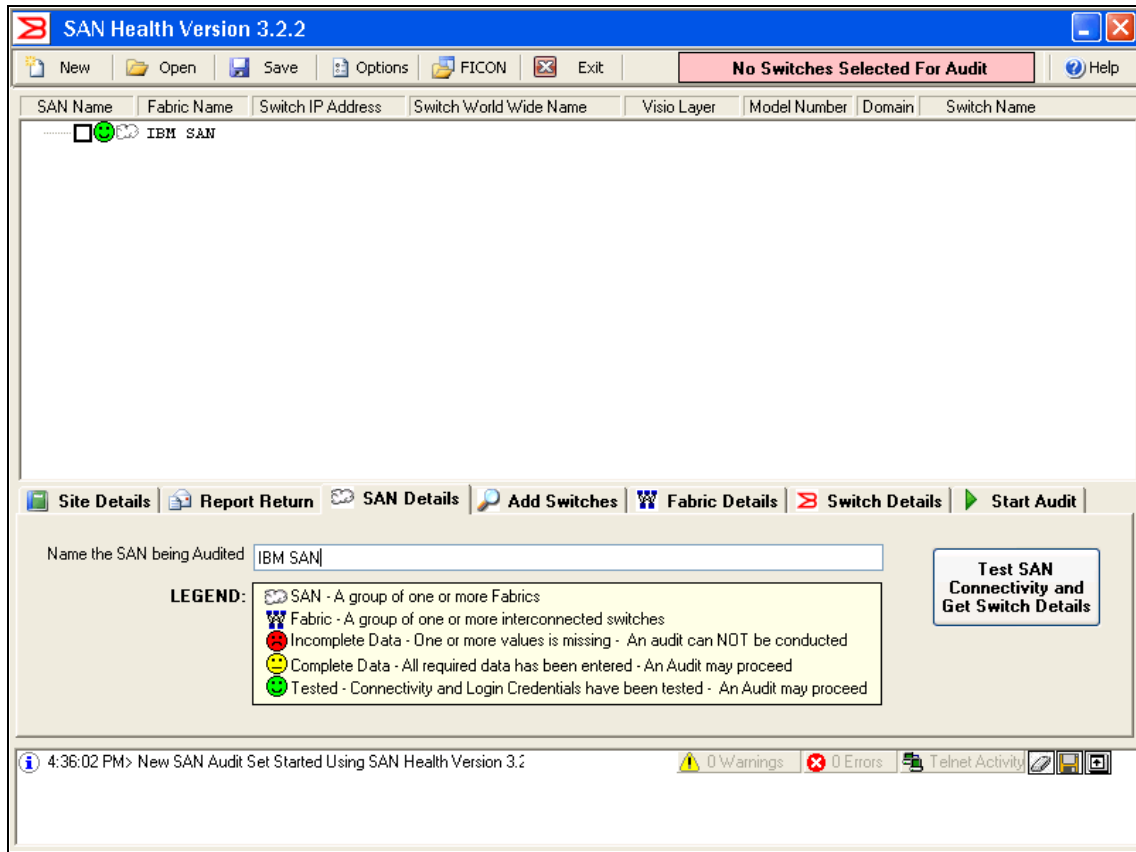

Figure 17-8 SAN Health Diagnostics Capture SAN Details
3. Now, add the switches or fabrics into the data collection engine. Start by naming the SAN on the *SAN Details* tab as shown in Figure 17-8.